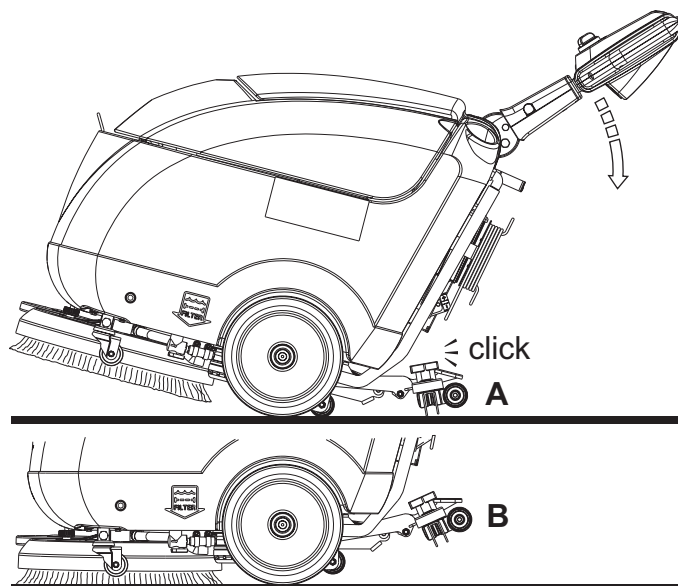

Figure 3
1. Grasp the handlebar (2), lower it until the rear wheel (7) touches the floor (A, Fig. 3) then engage the squeegee in lifted position (B)